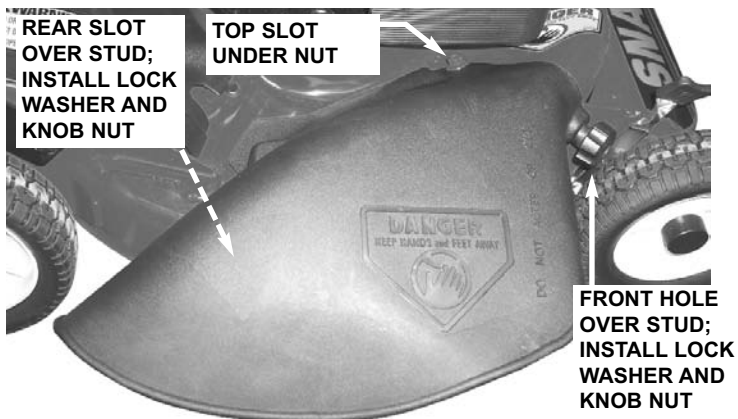

FIGURE 2.13
**STEP 2:** Install deflector to deck in place of recycling cover, making sure that: 1) front hole on outside front of deflector fits over stud where front of recycling cover was originally secured, 2) slot on top of deflector slips under restraining nut on top of deck (under right front corner of engine), and 3) slot on inside rear of deflector slips onto stud behind rear of discharge opening, where rear of recycling cover was originally secured. Install internal/external tooth lock washers and knob nuts onto studs and tighten securely. See Figure 2.13.